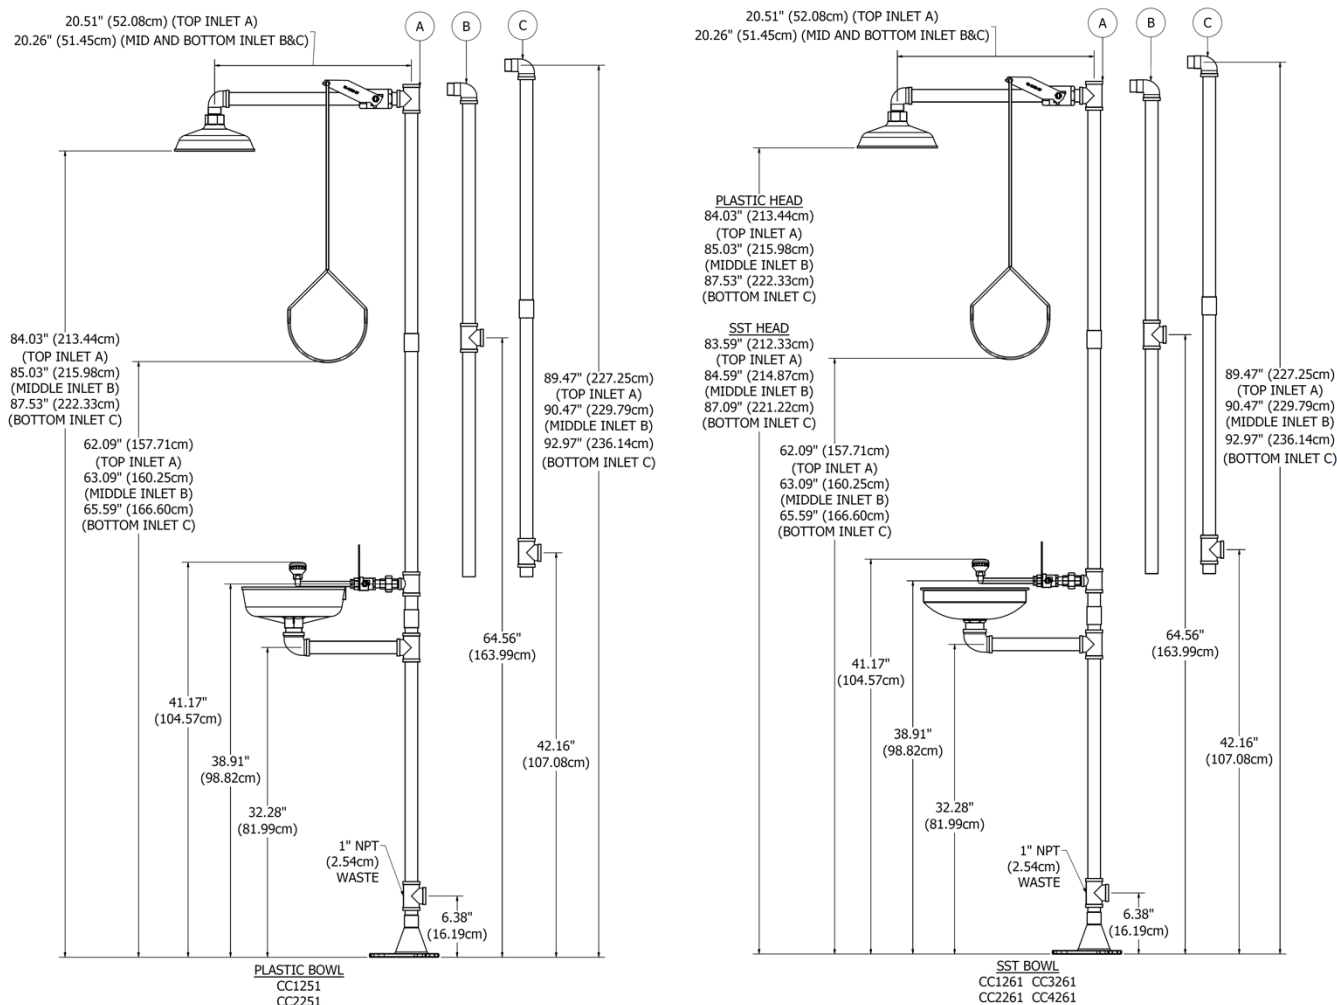

FIGURE 1
5. Assemble components in order based on sequence numbers provided on **Figure 4** first then the sequence provided in **Figure 5**. The fittings used for each inlet option A, B, or C (see **Figure 1** and **notes** on Page 1) are indicated in sequence #2, #4, and #6